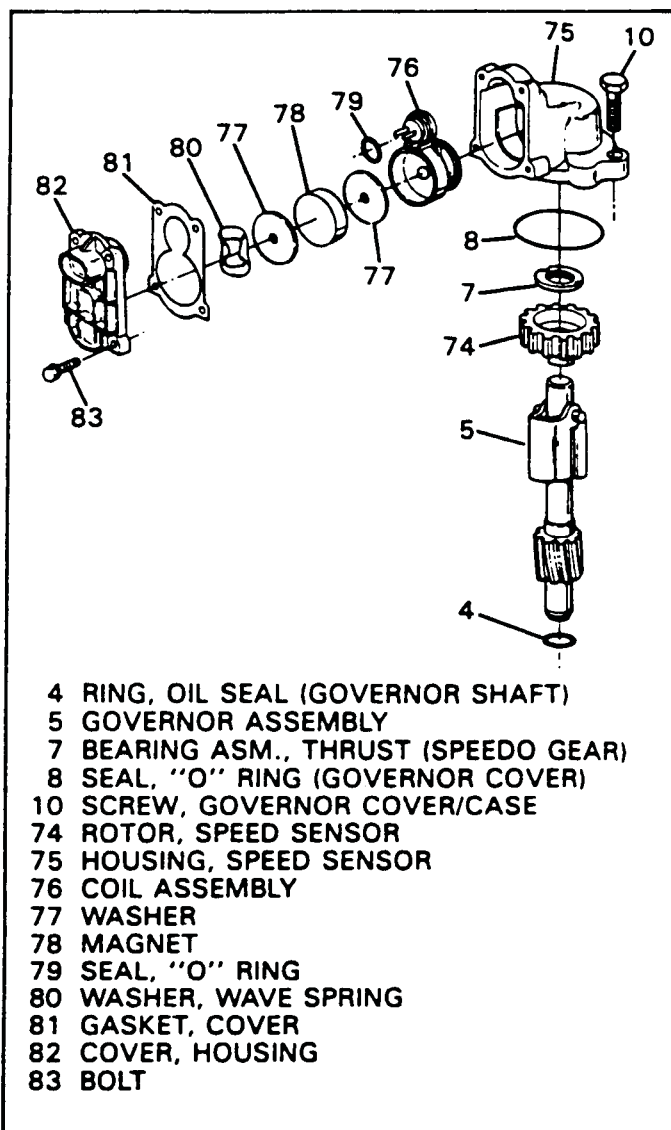

Figure 59
- 2) Speedometer Gear - Replaced by 14 tooth rotor (11 Tooth on Allante) That is pressed on governor shaft (See Figure 59).